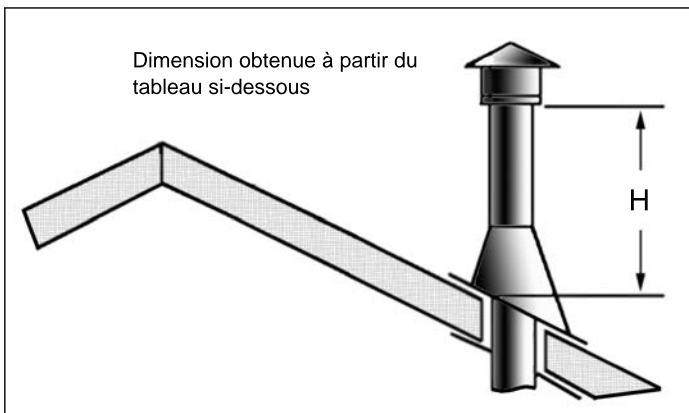

Figure 49. Height of Vertical Termination; Reference Table 10.
- STEP 8.** Continue to add pipe sections until the height of the vent cap meets the minimum code requirements. Refer to Figure 49 and Table 10. Note that for steep roof pitches, the vent height must be increased. In high wind conditions, nearby trees, adjoining roof lines, steep pitched roofs, and other similar factors can result in poor draft, or down drafting. In these cases, increasing the vent height may solve the problem.
- STEP 9.** Slip the storm collar over the pipe, and push it down to the top of the roof flashing as shown in Figure 49. Use the non-hardening sealant around the joint between the pipe and the storm collar.
Table 10: Minimum 'H' for Figure 49.